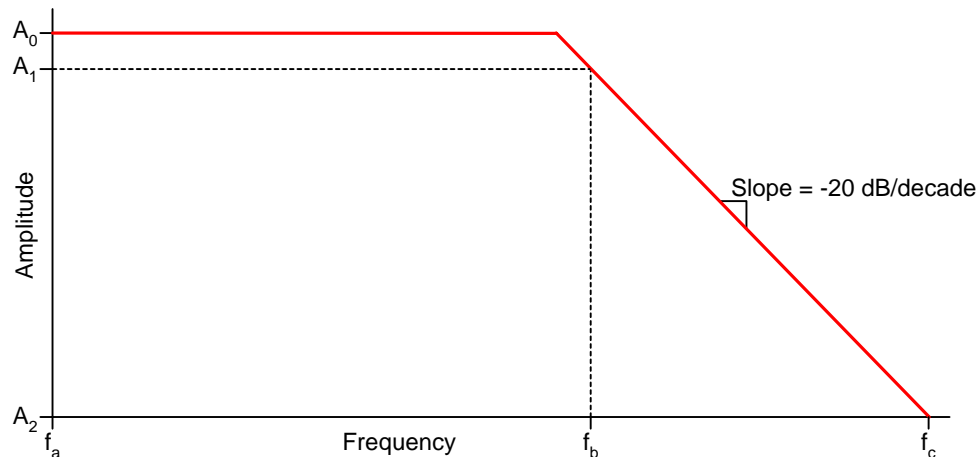

Figure A-3: SP1E Input Filter Template
- Let the Digital Oscilloscope filter the captured data using the filter characteristics shown in Table A-1 and Figure A-3.
- Let the Digital Oscilloscope filter the captured data using the low-pass filter characteristics shown in Table A-1 and Figure A-3.